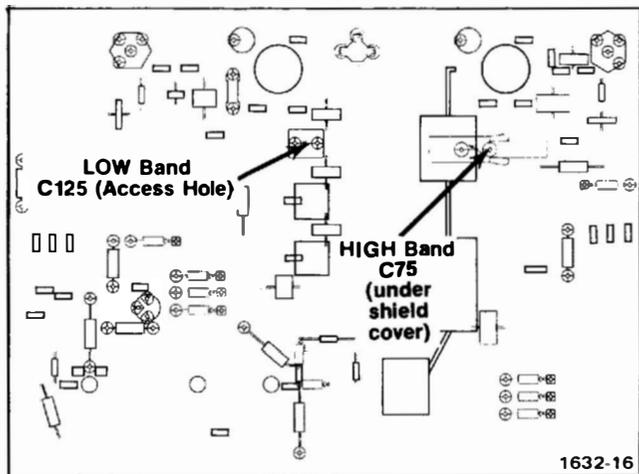

Fig. 3-6. Location of low band and high band adjustments on RF circuit board.
k. Adjust—Low Band, C125, for a minimum voltage reading on the digital voltmeter. (The minimum voltage point—greater than 14 volts, but less than recorded value in Step 3 part f—is very sensitive to the adjustment of C125.) See Fig. 3-6 for adjustment location.
j. Remove the shield cover from the rf board. High Band adjustment C75 is located near Q70 and is a slug-tuned capacitor. See Fig. 3-6 for reference.